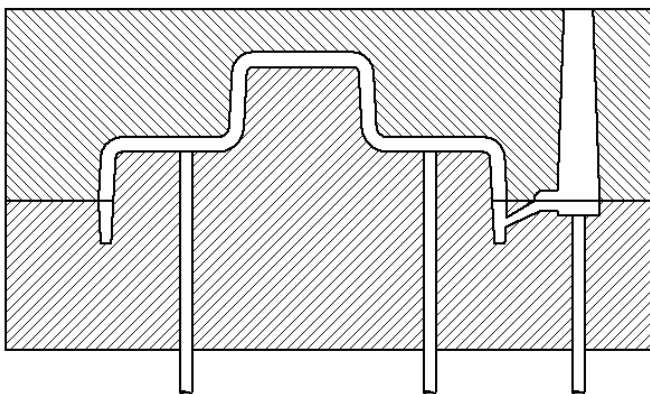

Figure 1-5: A tunnel gate is cut off when the part is ejected.
- ✓ **Tunnel:** *Tunnel gates* inject the plastic into the cavity from a port that's cut into the core side of the mould and comes back up into a portion of the part (see Figure 1-5).